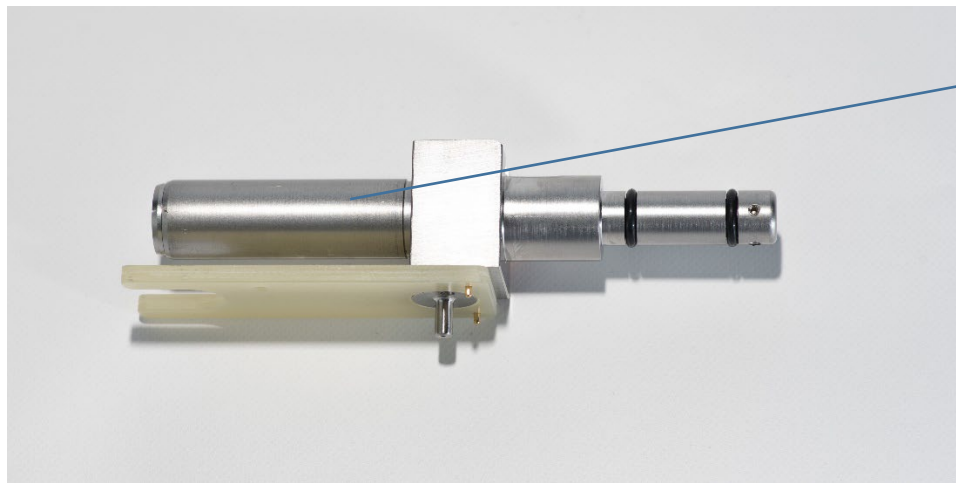

Figure 6: Charge Chamber Lubrication
- Lubricate the indicated cylinder of the Charge Chamber, see Figure 6.